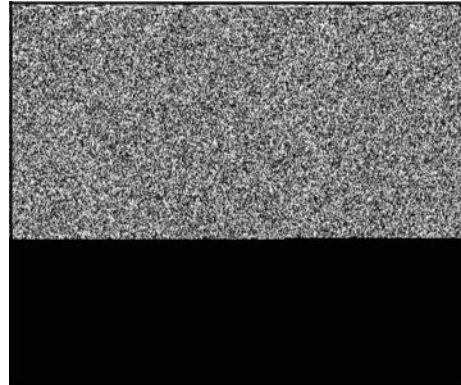

Figure 6
3. Remove screws (B, Figure 6) from trim plate or (C) from rewind guard. Remove trim plate or guard.